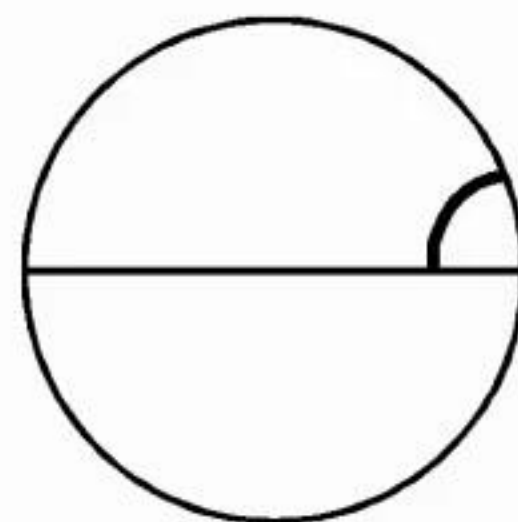

Fig. 10
- H. Fluorescence ring is close to rightside. Move slit lamp rightwards (Fig. 10).